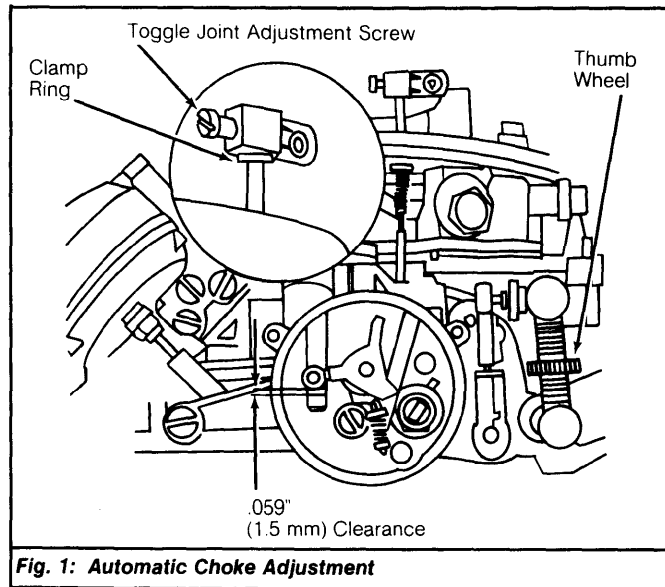

Fig. 1: Automatic Choke Adjustment
- 1) Remove choke cover, leaving electrical and water connections intact. Close choke valve by hand. Loosen toggle joint screw. See Fig. 1. Fast idle adjusting screw should be on high step of fast idle cam.